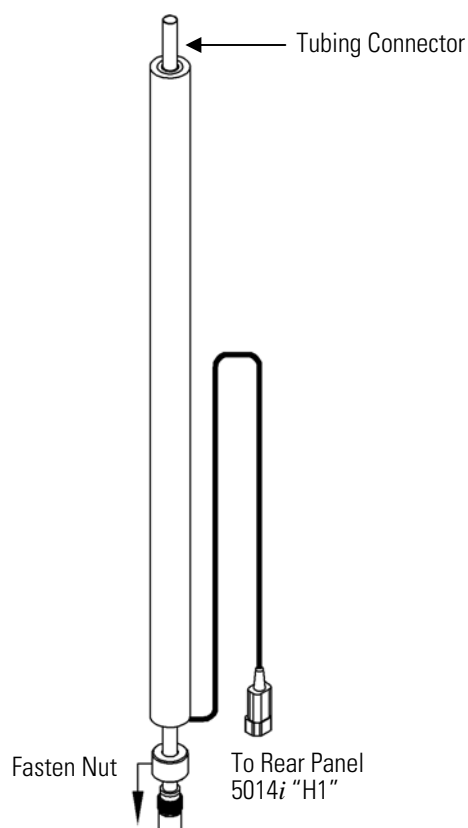

Figure 2–6. Heater Assembly
3. Attach the insulated heater tube assembly to the 5/8-inch OD tube on top of the 5014*i* (Figure 2–6).